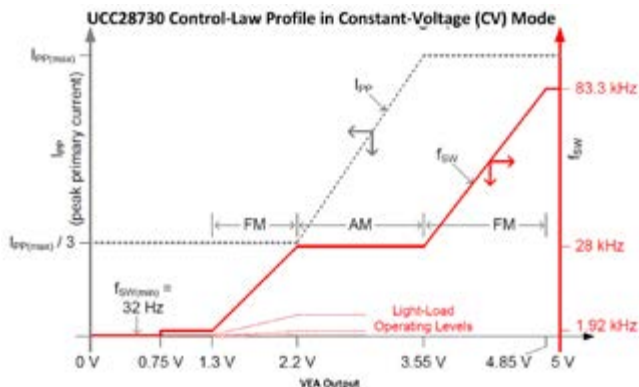

Figure 3: Control law of a controller with variations in VEA
Figure 3 describes the frequency (fSW) and primary peak current amplitude (IPP) modulation by the flyback controller's constant voltage/constant current flyback controller, based on changes at the controller's voltage error amplifier (VEA) output. The transformer's primary inductance is selected so that the converter operates at a maximum switching frequency (70 to 80 kHz, 83.3 kHz maximum). As the load decreases and less duty cycle is required, the VEA output decreases; this causes the device's voltage-controlled oscillator to decrease the converter switching frequency, running the converter deeper into discontinuous mode. This reduces the FET's (QA) switching losses